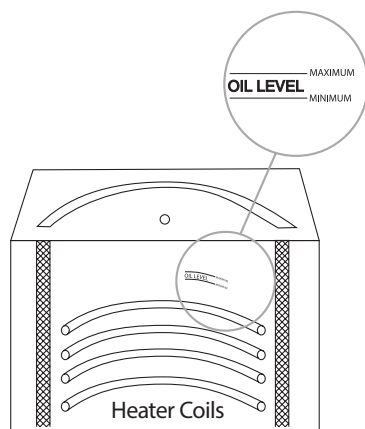

FIGURE 4
5. Add Cooking Oil - Liquid or solid cooking oil may be used. Melt solidified cooking oils in tender or other means and pump into fryer. Add enough cooking oil to raise liquid to within one inch of Minimum oil level line (see Figure 4, page 13). As oil heats, it expands. Check level again once oil has heated to verify that level is between Minimum and Maximum marks.
Fire or heater damage may occur when heaters are turned ON unless they are fully covered with cooking oil. >>Do not turn on power unless all heater coils are completely covered by cooking oil. Fill shortening to a level between the Maximum and Minimum oil level lines found on the inside of the cookpot (see Figure 4).
16. Oil Level - Add or remove cooking oil so that it is at a level between the Maximum and Minimum Level marks. (Figure 4).